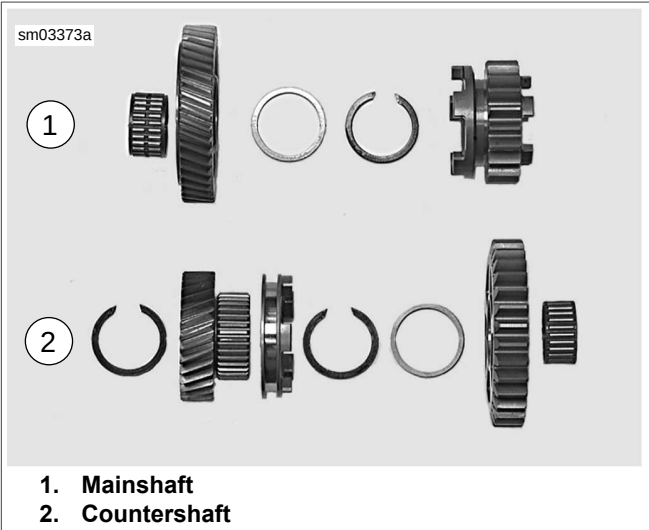

Figure 5-59. Transmission Parts Identification
- See Figure 5-59. As each component is removed, place it on a clean surface in the exact order of removal.